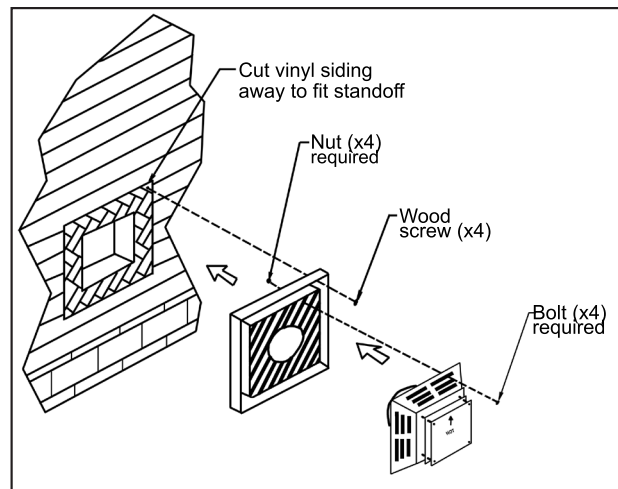

Figure 24: Installing Vent Cap with Vinyl Siding Stand-Off.
- (1) The four wood screws provided should be replaced with the appropriate fasteners for stucco, brick, concrete, or other types of siding.
- (2) For buildings with vinyl siding, a vinyl siding standoff, should be installed between the vent cap and the exterior wall (see Figure 24). Attach the vinyl siding standoff to the horizontal termination. The vinyl siding standoff prevents excessive heat from possibly melting the vinyl siding material. Note that the horizontal vent termination bolts onto the flat portion of the vinyl siding standoff (shaded area in Figure 24), so that an air space will exist between the wall and the vent termination.